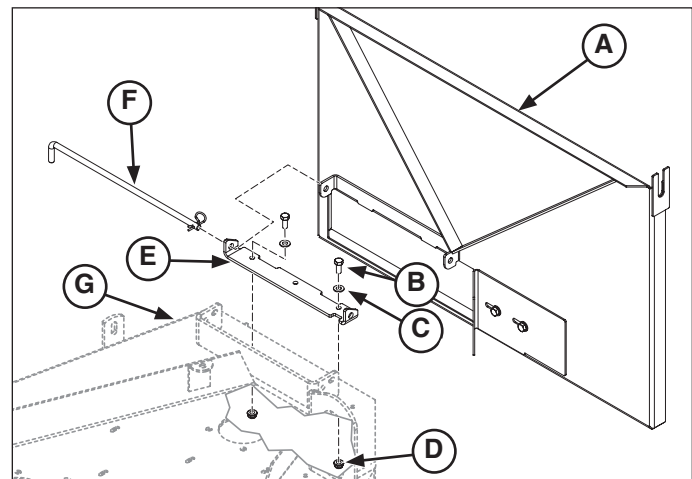

Figure 5. Installing the Bagger Mount
1. Install two (2) 5/16" bolts (**B**, **Figure 5**) with 5/16" washers (**C**) through the bagger mount bracket (**E**) and then through the mower deck (**G**). Secure with two (2) 5/16" nuts (**D**).